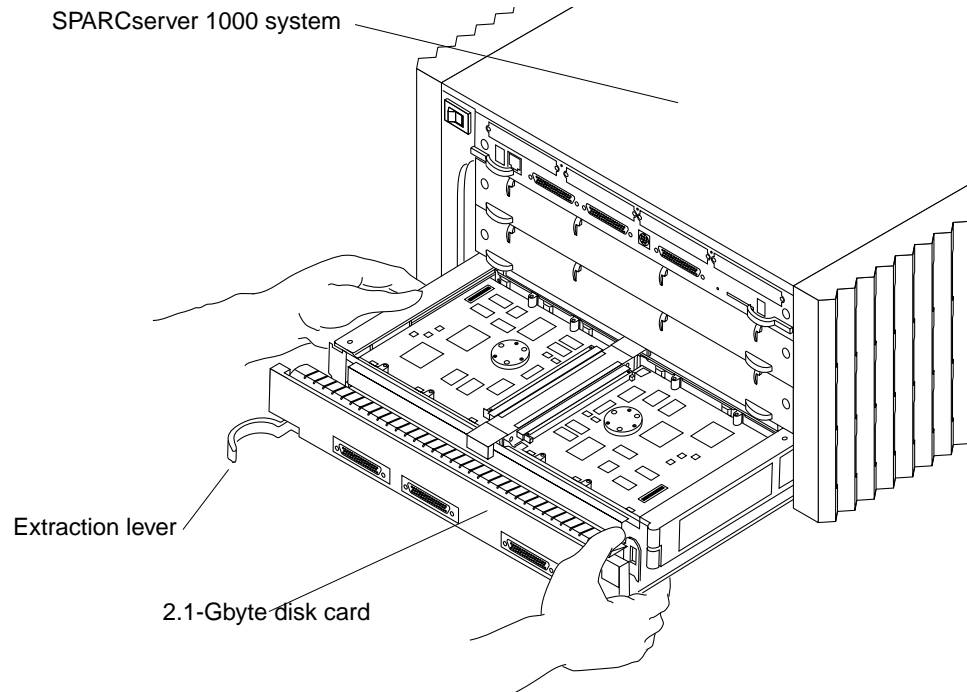

Figure B-2 Removing the 2.1-Gbyte Disk Card from the SPARCserver 1000 System
3. Pull the curved ends of the extraction levers outward to release the board from the backplane connector. Refer to Figure B-2.
5. Hold the board as shown in Figure B-2 and remove the 2.1-Gbyte disk card from the card cage.
Caution – The 2.1-Gbyte disk card is heavy. Place your hands as shown in Figure B-2 and remove the 2.1-Gbyte disk card slowly. Be careful.